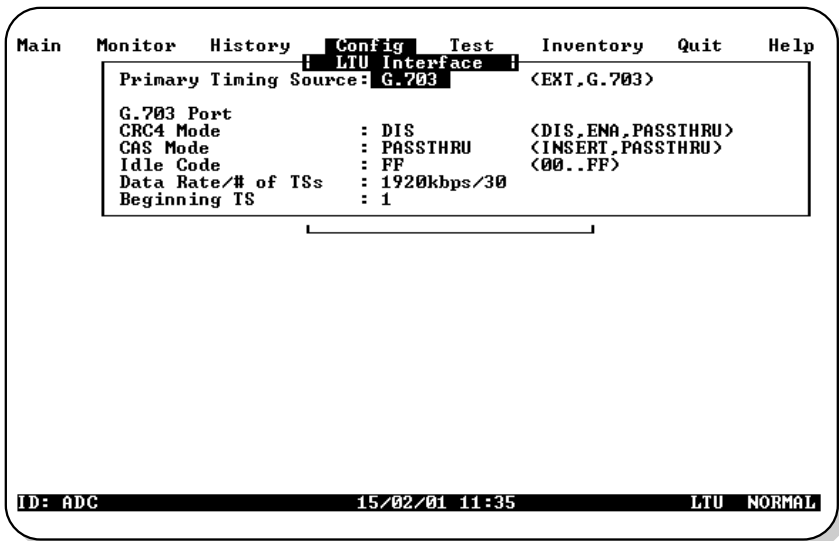
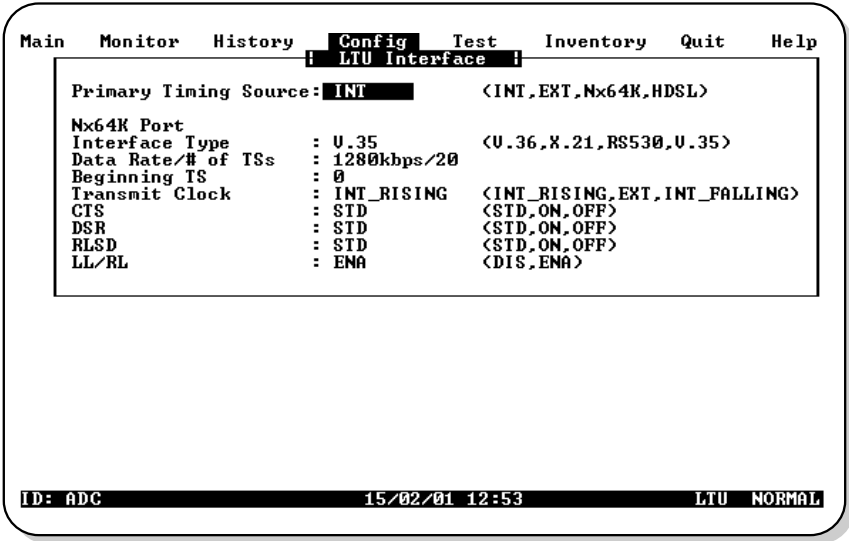

Figure 15. UTU-731 Config LTU Interface Menu
Figure 16. UTU-732 Config LTU Interface Menu
- **L** for the Config LTU Interface menu (UTU-731 in Figure 15 below or UTU-732 in Figure 16 on page 30).